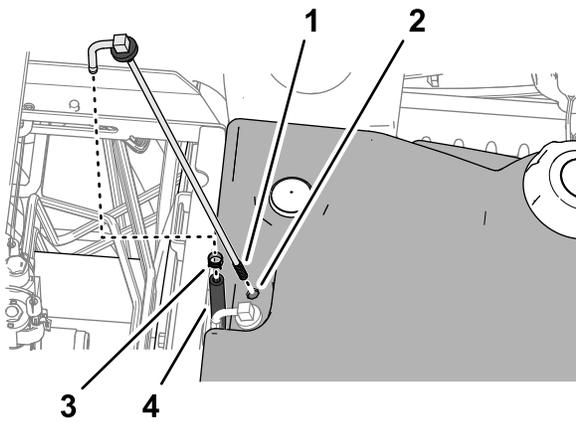

Figure 84
3. Remove the clamp that secures the hose to the fuel pick-up tube (Figure 84).
5. Clean the screen at the end of the fuel pick-up tube (Figure 84).